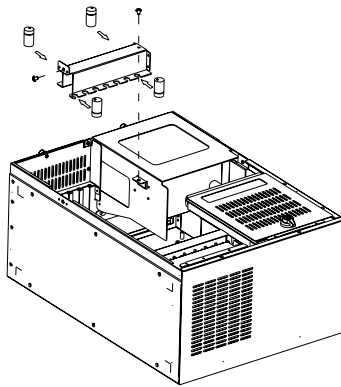

Figure 2.14: Installing the hold-down clamp
1. After plugging in the cards, please insert the rubber cushions provided into the notches of the hold-down clamp and adjust them so that their positions correspond with the locations of the cards. (See Figure 2.14).